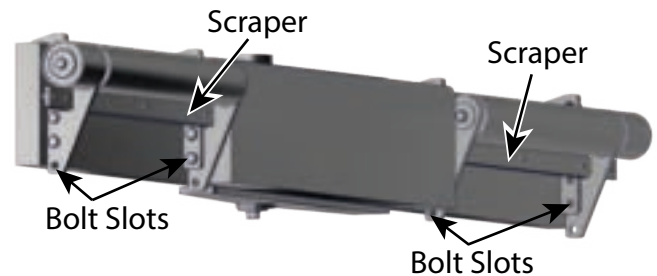

Figure 4-54. Adjustable Push Rollers
- Adjust truck push rollers to the appropriate height needed for asphalt truck. **(Figure 4-54)** Use truck hitch controls if equipped with this option. **(Page 4-33)**
- There are five (5) set heights on the truck push rollers.